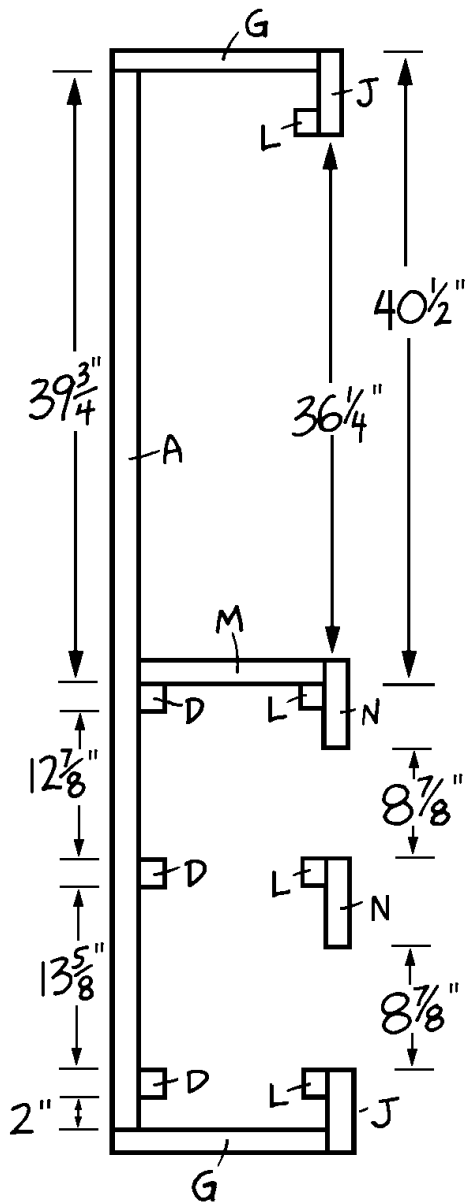

Figure 7
1. Cut four  $39\frac{5}{8}$ " horizontal inner supports (L) from  $\frac{3}{4}$ " x  $\frac{3}{4}$ " pine. These will fit behind the narrow and wide horizontal frames (J and N)
and will support the inner shelves as well as stabilizing the narrow horizontal frames (J) that just attached. A cutaway view of the placement of the inner supports on the left side of the armoire is provided in *Figure 7*.
2. Glue one horizontal inner support (L) onto the inner edge of each of the narrow horizontal frame pieces (J), positioning them as shown in *Figure 7*. Secure the supports with 3d finishing nails, spaced 6" apart.
3. Attach a third horizontal inner support (L) 40-1/2" from the top edge of the armoire, across the front opening. It should be exactly level with the shelf support (D), which you previously attached to the wide back (A). Use 3d finishing nails to secure it to the back faces of the narrow front vertical (H) and the center front vertical (I).
4. Cut one 41-1/8" upper shelf (M) from 1 x 12 pine, and rip the shelf to 10-1/2" in width. The shelf will fit on top of the horizontal inner support (L) which you just attached and the shelf support (D) on the wide back (A), as shown in *Figure 7*. In order to make the shelf fit, each of the corners must be cut out to accommodate the inner vertical supports (C) inside the armoire. Cut out a square from each corner of the upper shelf (M), measuring just over 3/4" x 3/4", as shown in *Figure 8*.
8. We're finally going to use that fourth horizontal inner support (L) that you've been so worried about! Bet you thought we forgot. Attach this support (L) across the 36"-wide opening, 12-7/8" below the horizontal inner support (L) that is under the upper shelf (M), as shown in *Figure 7*. Nail and glue the support (L) to the inner faces of the center front vertical (I) and the narrow front vertical (H).
9. Glue the remaining wide horizontal frame (N) to the horizontal inner support (L), which you just attached. The long upper edge of the wide horizontal frame (N) should be flush with the top edge of the horizontal inner support (L).
10. Cut four 21-5/8"-long short inner supports (O) from 3/4" x 3/4" pine. These will fit behind each of the short horizontal frames (K) on the right side of the armoire to stabilize the joints.
11. Glue and nail one short inner support (O) to the inner face of the short horizontal frame piece (K) at the top of the armoire, flush with its edge. Secure the support with 3d finishing nails spaced about 6" apart.
12. Repeat Step 11 to attach the second short inner support (O) to the short horizontal frame piece (K) at the bottom of the armoire.